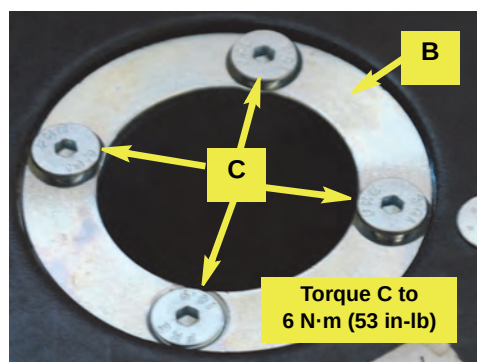

Figure 1b: Securing the shaft adapter
- Using the four countersunk screws **C**, secure the shaft adapter **B** in the steering wheel. Torque the screws to **6 N·m (53 in-lb)** (Figure 1b).
- c. Using hardware **EL** attach ECU **EN** (power/comms indicators to the rear) to the inner face of **EM** (Figure 1b with inset).
Figure 1b with inset: ECU installed